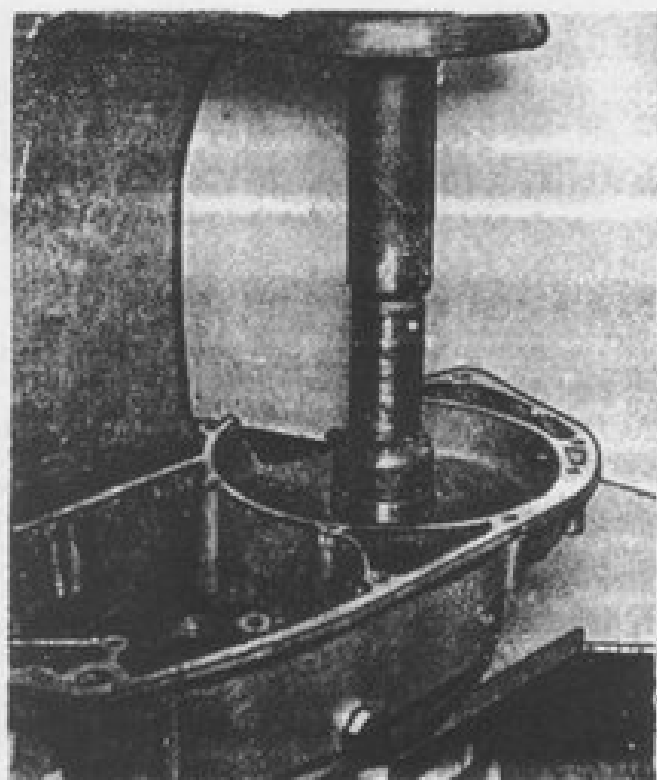

Fig. 20. Pressing the crankshaft bearing outer race into crankcase half, HЖ-II-3 motorcycle.
3. Press an oil seal into the crankcase left-hand half from the crank chamber side, set an oil directing washer and press in the outer race of the bearing on a press with the help of bush 17, Set No. 2, (Fig. 20).